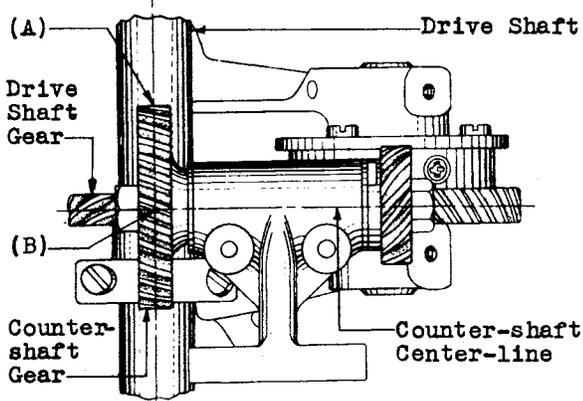

Fig. 7
(b) Horizontal Alignment of Counter-shaft Gears (152, 161 and 166 Type Interrupters Only) - Fig. 7 (A) - With the counter-shaft end play taken up toward the cam shaft, a plane midway between the two sides of the larger counter-shaft gear shall be within  $\pm .020$ " of the center-line of the drive shaft when measured at the top and bottom edges of the gear. Gauge by eye.
(c) Vertical Alignment of Counter-shaft Gears (152, 161 and 166 Type Interrupters Only) - Fig. 7 (B) - The center-line of the counter-shaft shall be within  $\pm .020$ " of a plane midway between the two sides of the drive shaft gear, when measured at the ends of the counter-shaft. Gauge by eye.